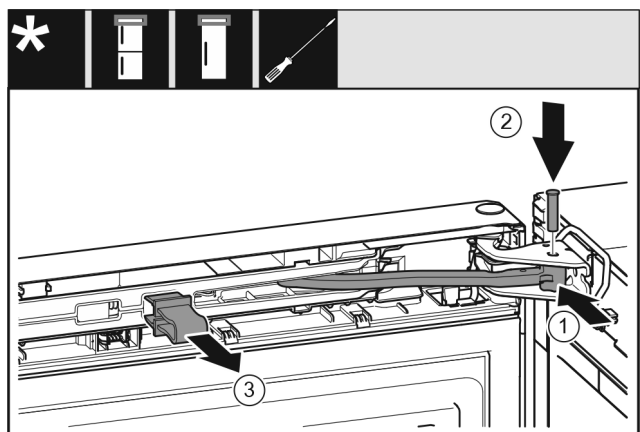

Fig. 43
- ▶ Turn the joint Fig. 43 (1) in the bearing block.
- ▶ Insert the bolt Fig. 43 (2) into the bearing bracket and joint. Ensure that the latching cam is in the groove properly.
- ▶ Remove the safeguard Fig. 43 (3).